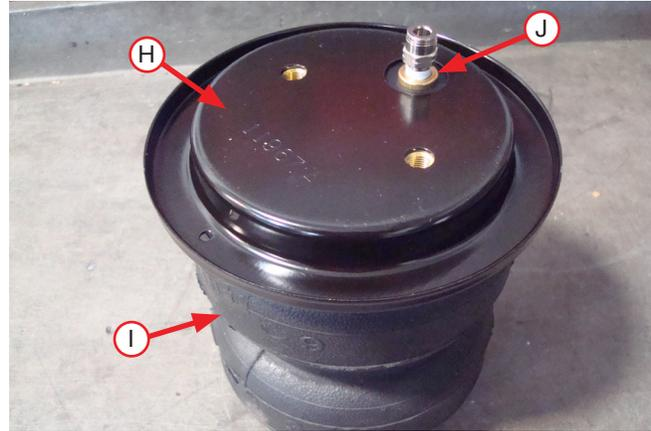

Fig. 15
1. Set a roll plate (H) onto the top of the air springs (I) and install the fittings (J) into the top of the air spring finger-tight. Tighten the fitting an additional 1 1/2 turns (Fig. 15).